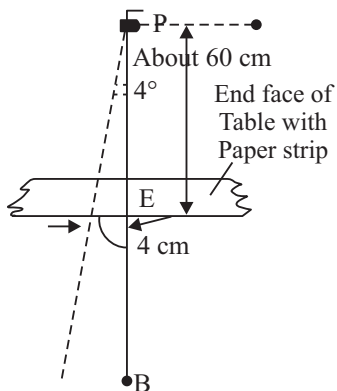

Fig. 4.3
- (v) Pull the bob to one side and release so that it oscillates with an amplitudes of less than 4° (Fig 4.3). If height of P above table is about 60 cm, then maximum displacement of thread from central mark is not more than about 4 cm.